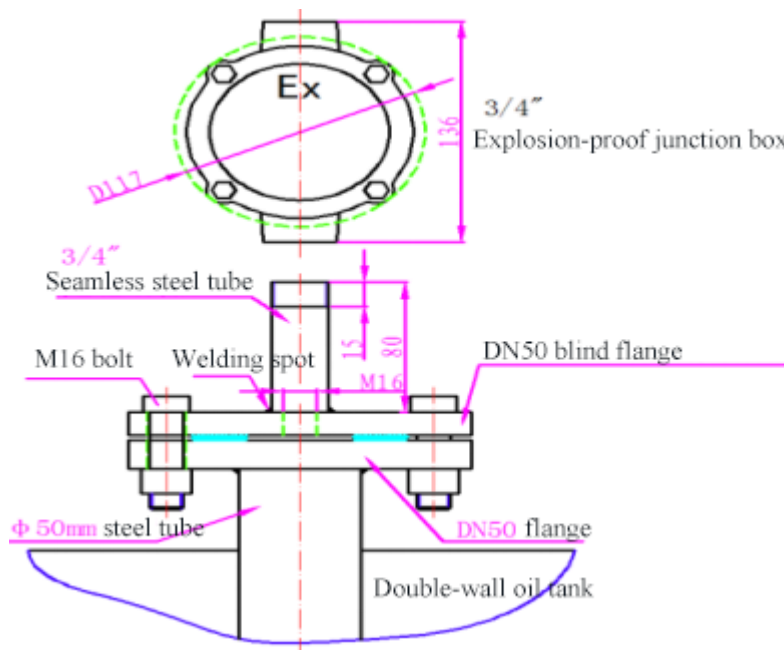

Figure 3: installation diagram of flange and explosion-proof junction box
- The explosion-proof junction box is installed on the short tube which is above the double-wall test tube flange, as shown in figure 3;